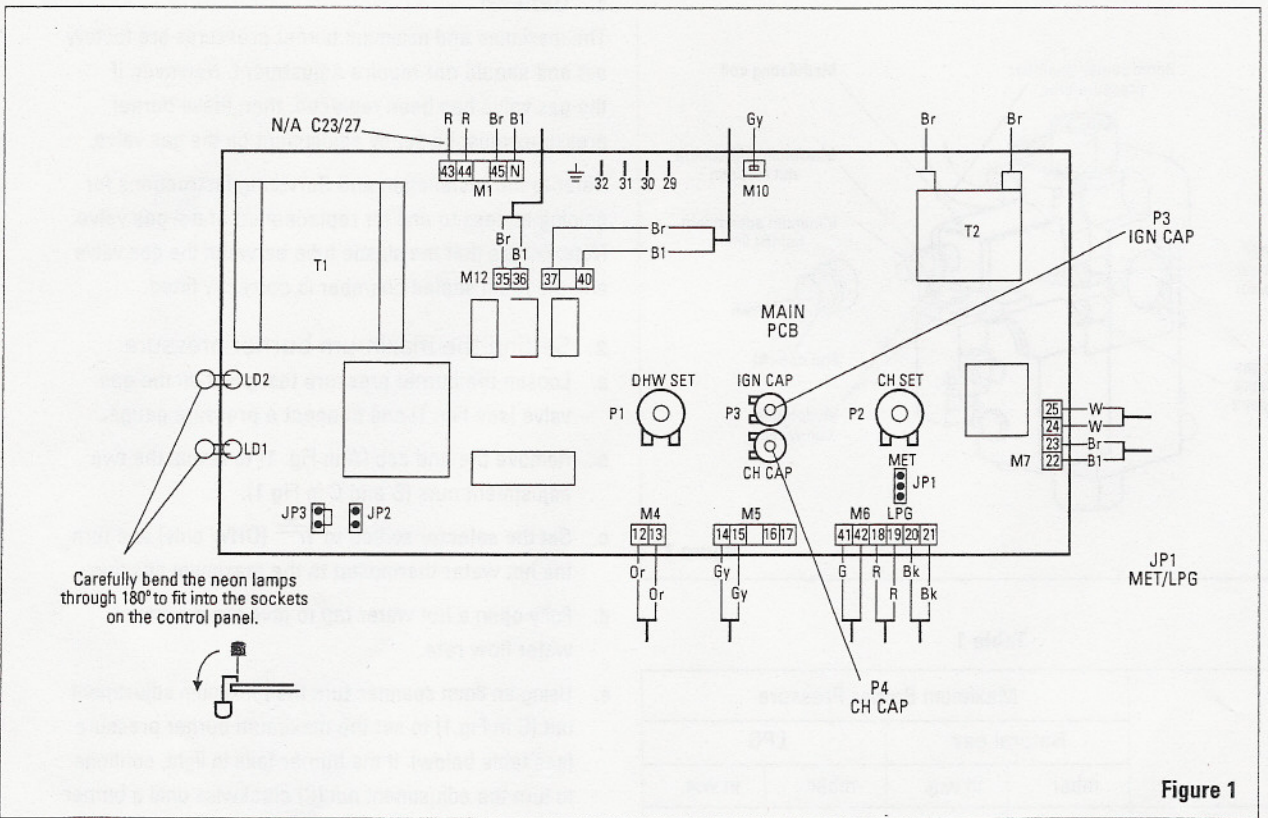

Figure 1
- Using a 5mm spanner, turn the minimum adjustment nut (B in Fig. 1) to set the minimum burner pressure (see table 1).
- Note:** It is advisable to hold the maximum adjustment nut (C) with an 8mm spanner, when adjusting the minimum nut (B).